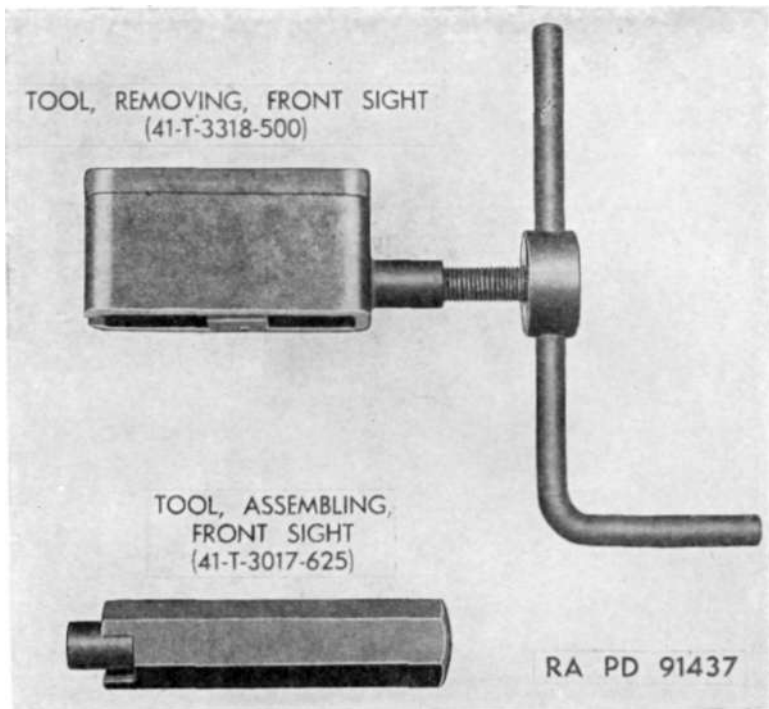

Figure 12. Front sight removing and assembling tools.
*c.* TOOL, ASSEMBLING, FRONT SIGHT 41-T-3017-625 (fig. 12). The front sight assembling tool is a hexagonal shaped driver with the interior drilled which acts as a guide to receive the barrel. A spring loaded plunger protrudes from the front and when the plunger is bottomed it acts as a stop to align the hole for the front sight pin. A cut on the upper front portion of the tool provides a bearing surface for driving on the sight, and also makes it possible to rotate the sight on the barrel for alignment of the key and keyway.
*d.* TOOL, REMOVING, FRONT SIGHT 41-T-3318-500 (fig. 12). This tool consists of a steel frame slotted on one end to fit over the band to the rear of the front sight. On the other end of the tool is a jack screw with a floating pilot which seats in the muzzle of the barrel.